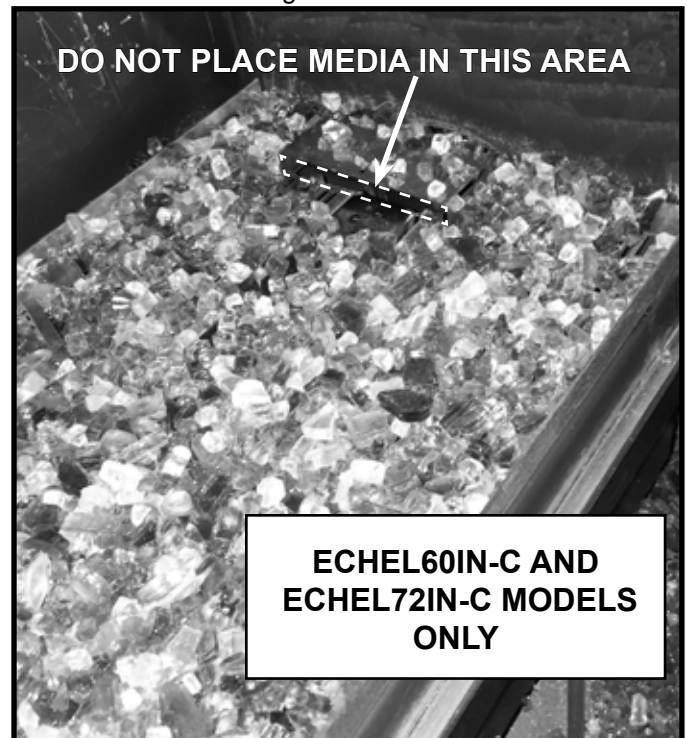

Figure 7. Media Placement Restriction Area
**DO NOT** place media in front of opening on right side of the burner (60 and 72 only). Flame appearance will be affected. See Figure 7.